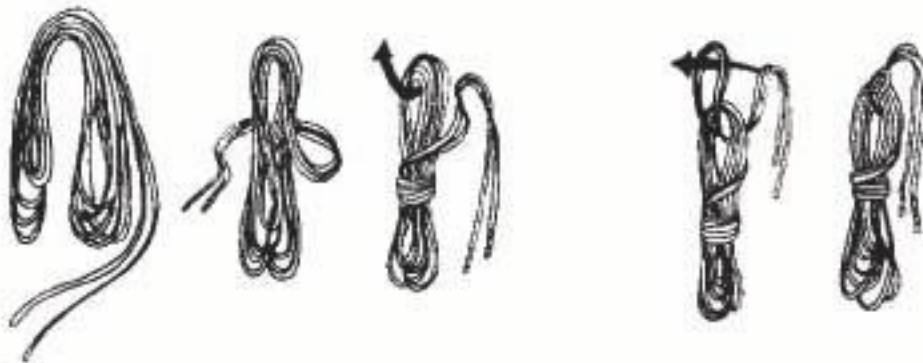

Figure 2-18. Butterfly Coil
Fast Rope – Check for corrosion, cracks and security of the mounting hardware for the head cap assembly. One broken strand on safety cable will render the entire rope unserviceable. There must be a #1 stamped on the swedge crimp securing the safety cable on ropes manufactured prior to 1 Dec 1995. See Figure 2-18.
(2) Butterfly Coil (Figure 2-18) most preferred because it tangles less and can be tied across the back.